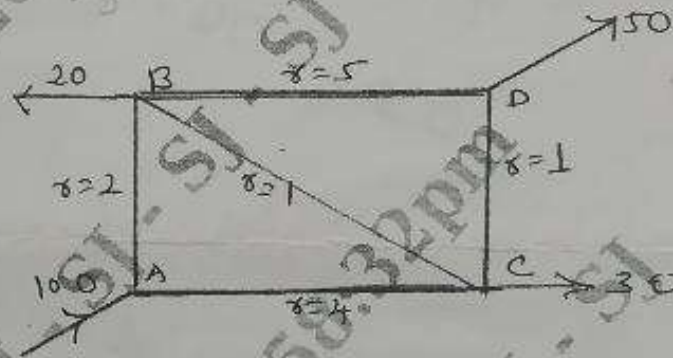

Fig.Q.10(c)
c. For a pipe network shown in Fig.Q.10(c) find the flow in each pipe. The value of 'n' mg/c assumed as 2.0. (08 Marks)